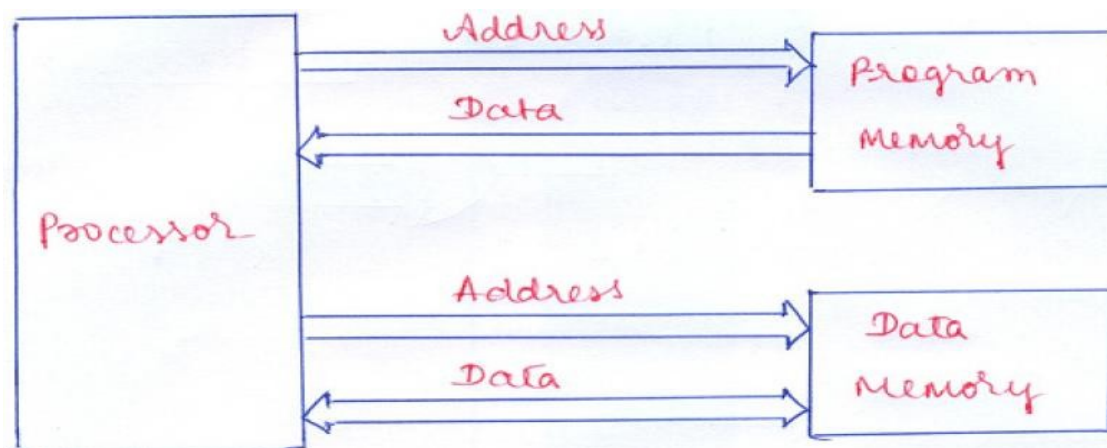

Fig 2.10 Harvard Architecture
- It is as shown in figure 2.10.